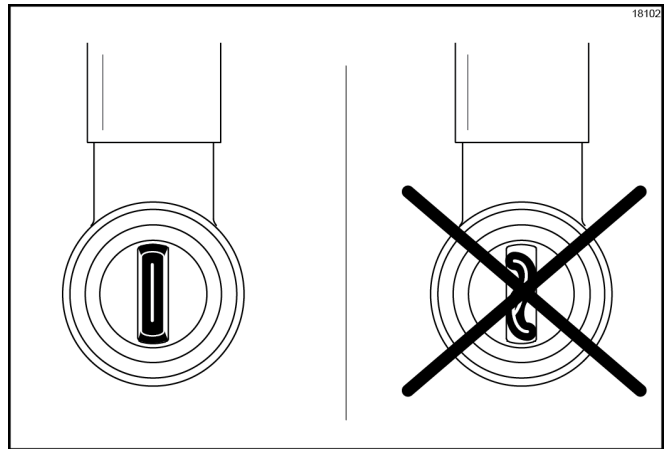

Figure-71
18. Inspect the duckbill valve for proper installation inside the syrup nose fitting. The tip of the duckbill valve must be flat to seal the syrup line. (See Figure-71.)